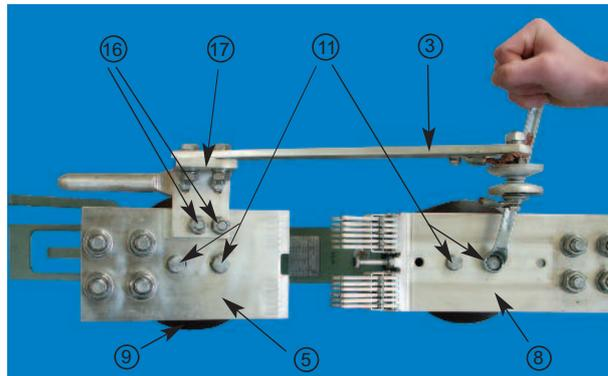

Fig. 20: Removal/Installation of main contact system
- Remove contact plate with contact fingers (8) from the fixed insulator (12) by releasing the two fastening bolts M 10x25 (11) (Fig. 20)
- Install new contact plate with contact fingers (8) on the fixed insulator using the two fastening bolts M 10x25 (11) and tighten slightly
- Check linear alignment of the new contact plate (8) toward the connecting plate (5) using a straight edge
- Tighten fastening bolts M 10x25 (11) of contact plate (8) (tightening torque: 32 Nm)
- Remove connecting plate (5) including contact arm (3) from the hinged insulator (9) by releasing the two fastening bolts M10x25 (11) (Fig. 20)
- Install new connecting plate (5) including contact arm (3) on the hinged insulator (9) using the two fastening bolts M10x25 (11) and tighten slightly. Use the original version to adjust the basic position of the contact arm on the hinged insulator connecting plate (5).
- After central adjustment of the contact arm (3) tighten the two fastening bolts M 10x35 (16) on the contact bracket (17) (Fig. 20) (tightening torque: 32 Nm)